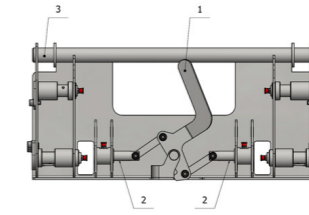
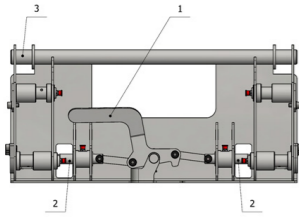

Figure 6: Released quick clamp
Figure 7: Quick clamp in secured position
3. By flipping the lever (position 1 in Figure 6: Released quick clamp) into a vertical position, insert the quick clamp by its pins (2).
4. By handling the loader and the quick clamp, fit the clamping pins (3) of the quick coupler into the beds on the attachment.
5. Adjust the attachment by tilting the quick clamp so that the holes on the work tool are opposite the pins (2) on the quick clamp.
6. Secure the attachment by sliding the pins (2) out and into the hole on the work tool, and flip the levers (1) back to their original (horizontal) position (Figure 7: Quick clamp in secured position).